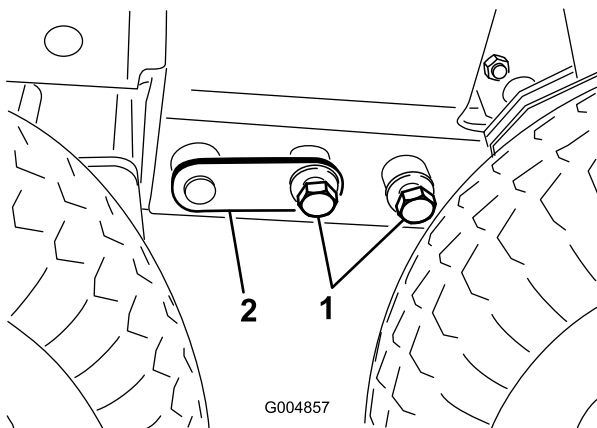

Figure 39
8. Adjust the floor jack or rock the cab with your hands as required to install the bolts (3/4 inch) on each side (Figure 39). Torque the bolts to 265 ft-lb (359 N·m).